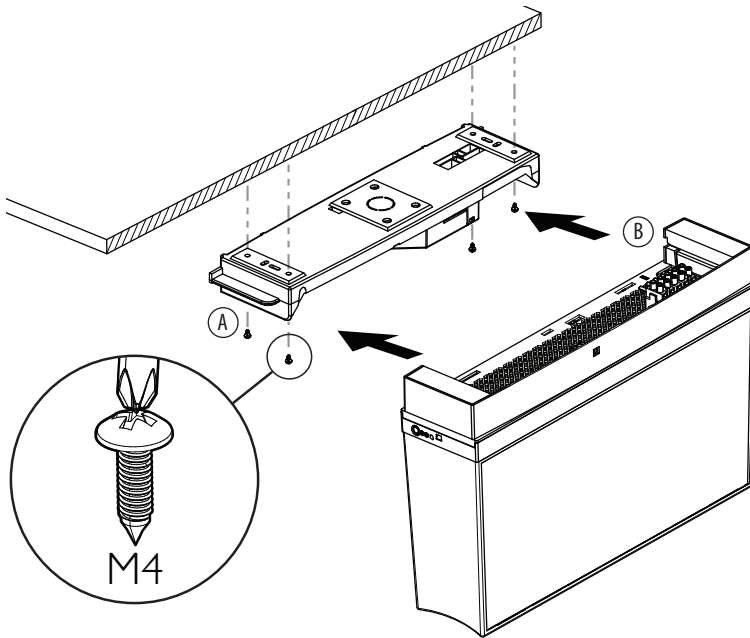

Figure 3: Mercury surface mount installation
2. The top lid of the Mercury is to be mounted first by fastening screws into position. The screw positioning can be seen in **figure 3 (A)**.